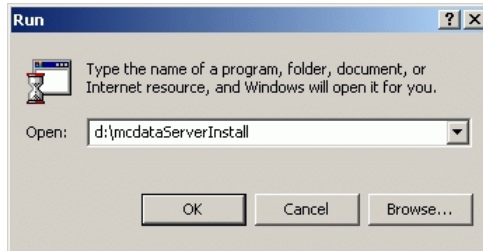

Figure C-1 Run Dialog Box
10. At the management server's Windows 2000 desktop, click *Start* at the left side of the task bar, then select the *Run* option. The *Run* dialog box displays (Figure C-1 on page C-4).